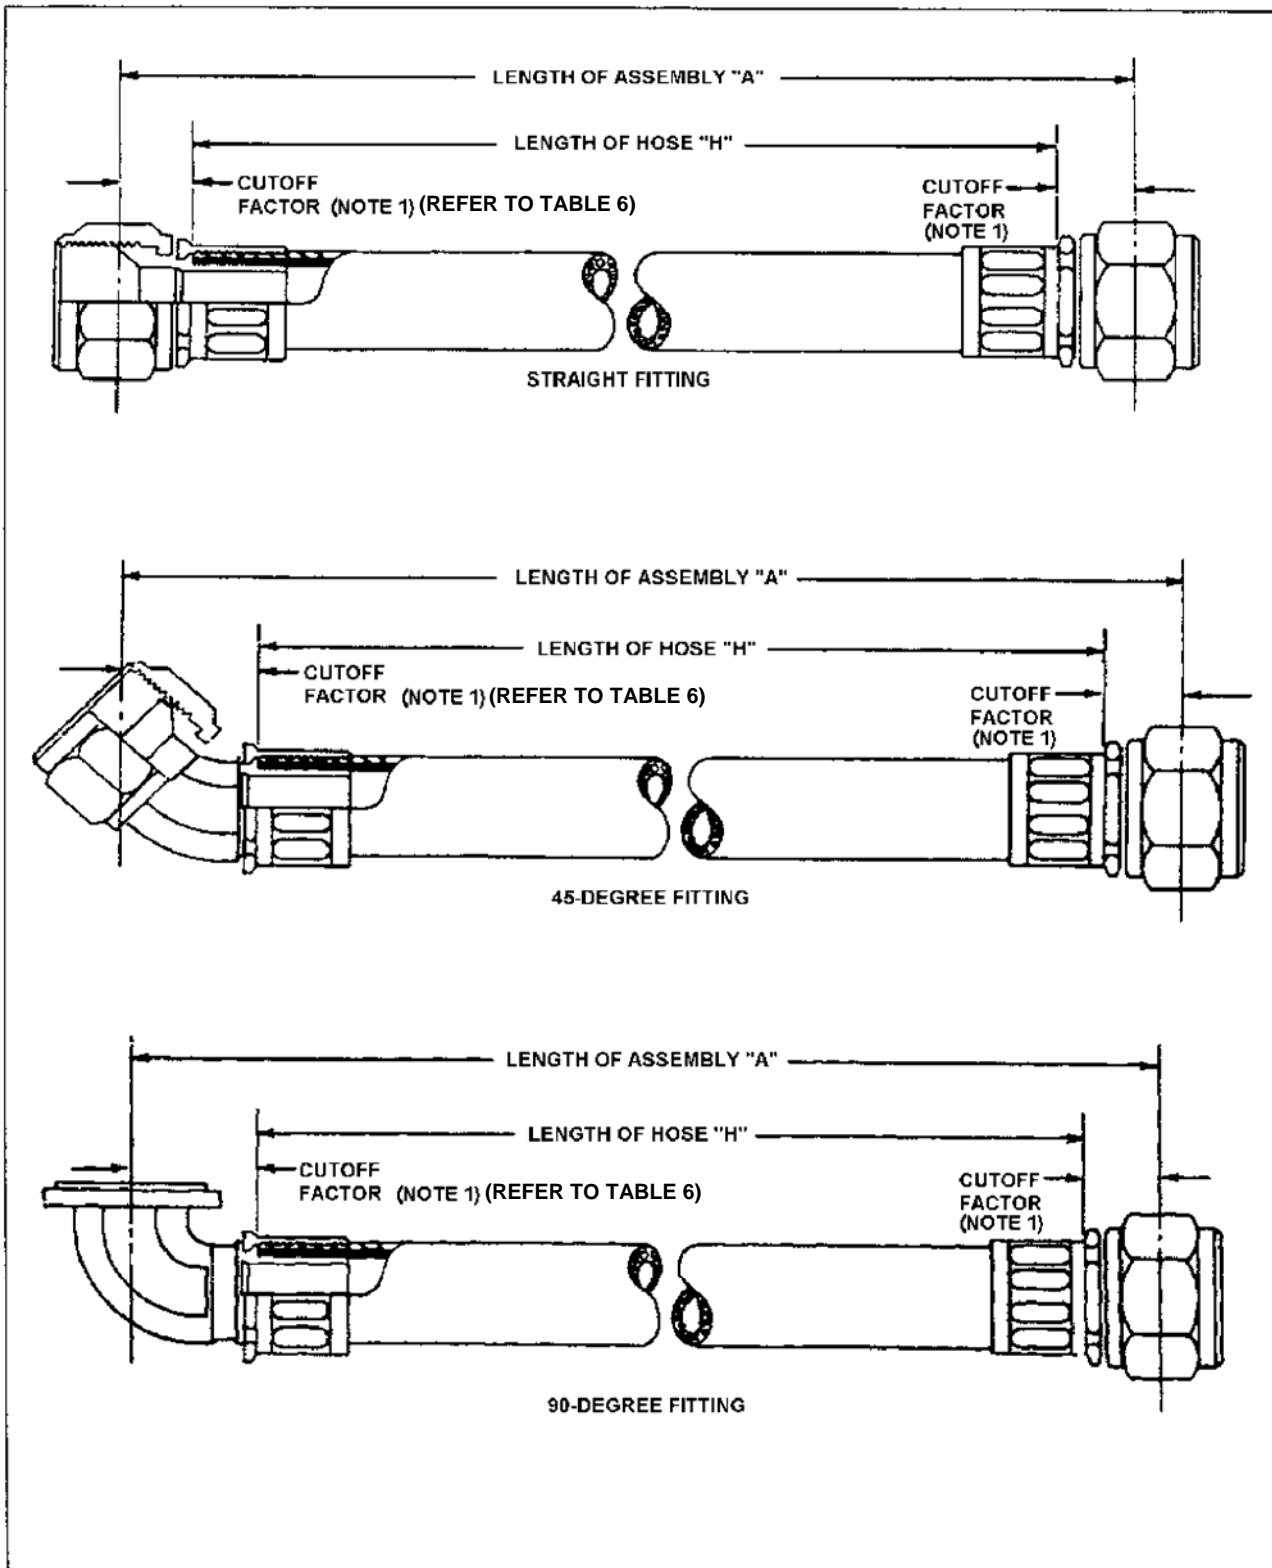

Figure 7. Determining Hose Assembly Length
41. Figure 7 depicts how to calculate hose cut length. Refer to Table 6 for cut off factors for use in constructing hose assemblies per Work Packages 004 02 through 004 05.